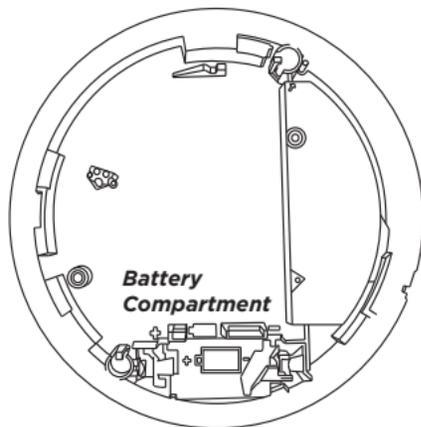

Figure 5: Battery Location
1. Firmly grasp the battery pull-tab on the smoke detector's battery compartment and remove it. See Figure 5.
2. Remove the battery from the detector. See Figure 5.